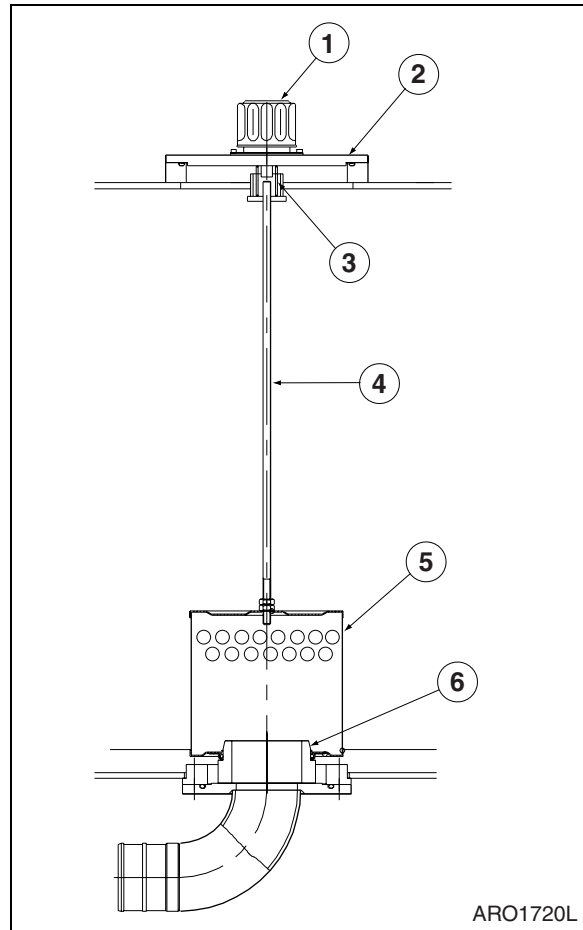

Figure 80
4. Release pressurized air from hydraulic tank by rotating air breather cap (1, Figure 80).
6. Carefully remove bolts and cover (2, Figure 80) from top of hydraulic oil tank. There is a spring (3) under the cover that will force the cover up.
7. Remove spring (3, Figure 80) and strainer (5), by pulling on rod (4).
9. Position strainer (5, Figure 80) on boss portion of suction pipe (6).
11. Place spring (3, Figure 80) on rod (4) and assemble cover (2).